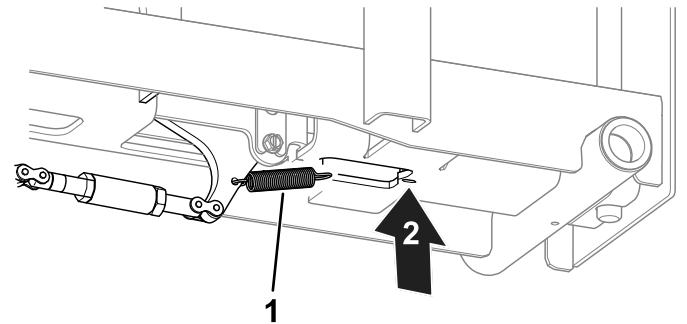

**Figure 14**
8. Use a chain link to install the chain-link turnbuckle to the wheel stop (Figure 14).